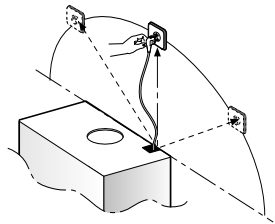

Fig.2
in Fig.1. When mounting align the front of the rangehood to the door of the cupboard and regulate the L wall spacer through the screws marked **P** (Fig. 2). The rear of the appliance must then align with the cupboard.
To transform the rangehood from the extraction version to the re circulating one ask your supplier for an activated carbon filter. The activated carbon filter cleans the air of the room. This filter is not washable or re-usable and must be substituted at least every 4 months. Saturation of the activated carbon depends on how often the appliance is used, the type of kitchen and how regularly the grease filter is cleaned. The filter must be fitted to the motor in the centre of the fan grille by twisting it by 90 degrees until it is gripped securely. Remove the grill (G) fig. 2 to carry out this operation. The clean air is returned into the room through a connecting tube passing inside the cupboard and connected to the ring **B** (Fig.1).